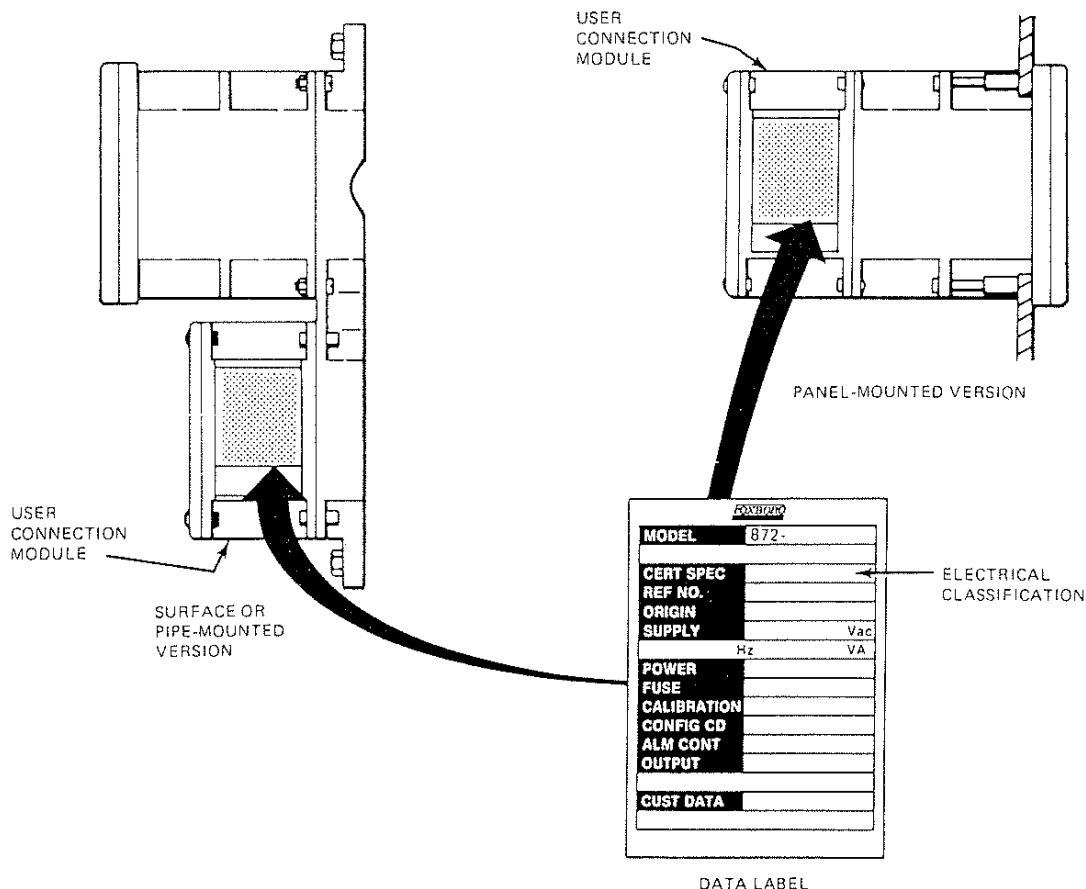

Figure 2. Monitor Identification
Monitor Identification Refer to Figure 2.
⁽¹⁾Refer to Data Label in Figure 2.
1. Remove four screws from cover of Monitor user connection module (Figure 2). On the panel-mounted version, the user connection module is located at the rear of the Monitor, opposite the front plate. On both the surface-mounted and pipe-mounted versions, the user connection module is located directly below the front plate.